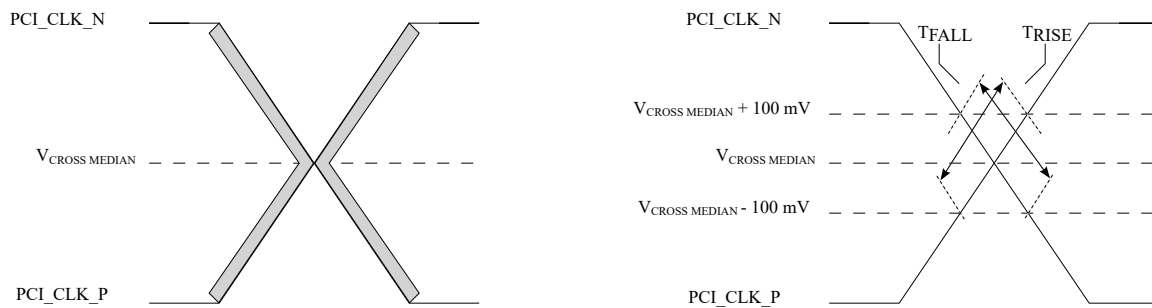

Figure 23. Single-ended measurement points for rise and fall time matching
- Differential Waveform** The differential waveform is constructed by subtracting the inverting signal (SD_TX_n_N, for example) from the non-inverting signal (SD_TX_n_P, for example) within a differential pair. There is only one signal trace curve in a differential waveform. The voltage represented in the differential waveform is not referenced to ground. See Figure 23 as an example for differential waveform.
- Matching applies to rising edge for PCI_CLK_P and falling edge rate for PCI_CLK_N. It is measured using a 200 mV window centered on the median cross point where PCI_CLK_P rising meets PCI_CLK_N falling. The median cross point is used to calculate the voltage thresholds that the oscilloscope uses for the edge rate calculations. The rise edge rate of PCI_CLK_P must be compared to the fall edge rate of PCI_CLK_N, the maximum allowed difference should not exceed 20% of the slowest edge rate. See Figure 23.